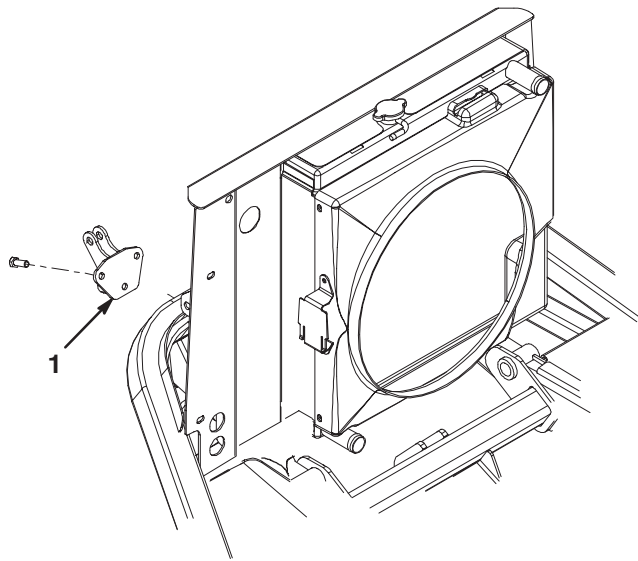

Figure 8
- 10.** Secure the link mount to the rear bumper bracket with 3 screws (3/8 x 1 inch). Position the link mount as shown in figure 8.